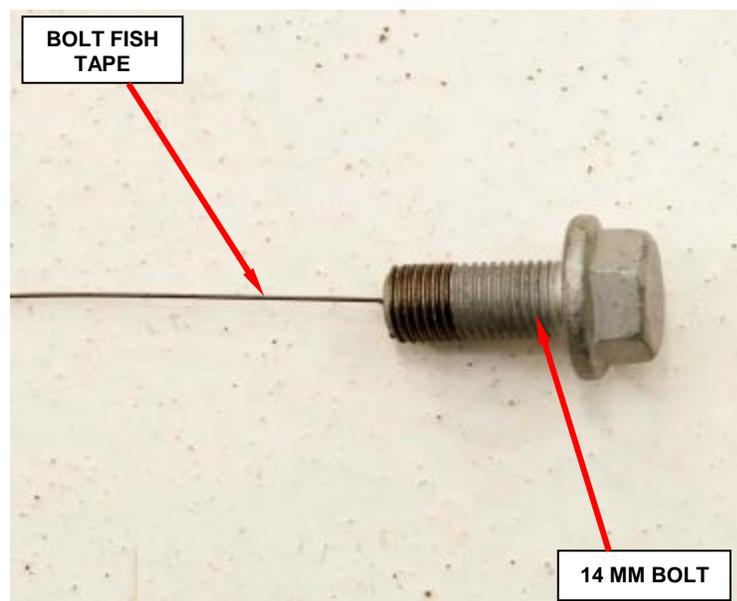

Figure 22 – “Bolt Fish Tape” Tool
42. Screw the 14 mm bolt into the “bolt fish tape” tool supplied with the kit (Figure 22).